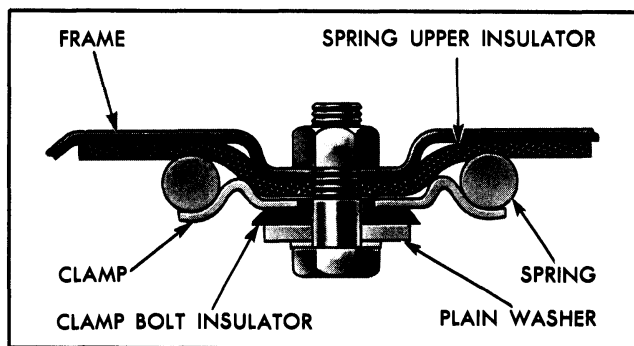

Fig. 3-31 Cross Section of Upper Rear Spring Assembly
8. Remove upper spring retainer nut and remove bolt, lock washer, flat washer, rubber insulator and spring clamp with fabric insulator (Fig. 3-31).